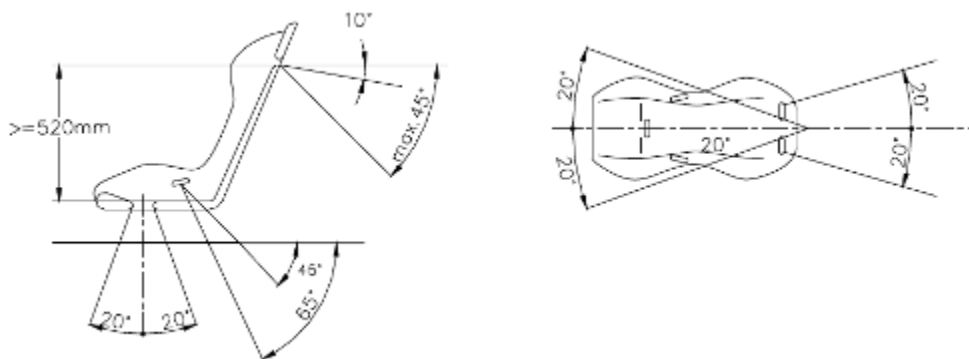

Figure 23
- 12.3.** Shoulder straps should direct downwards and backwards and must be mounted at an angle of 10° maximum (Figure 23).